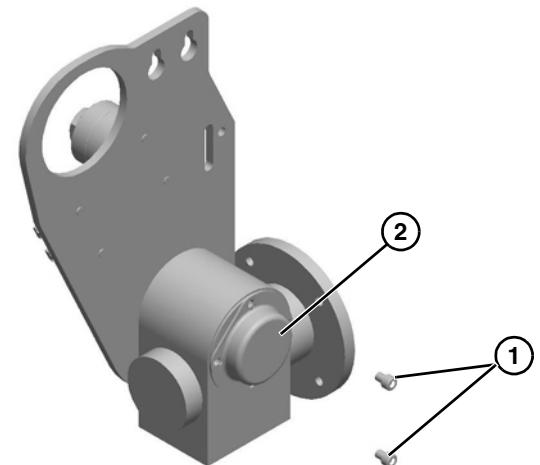

Figure 34
9. Attach output shaft cover (Figure 34, item 2) with two screws (Figure 34, item 1).